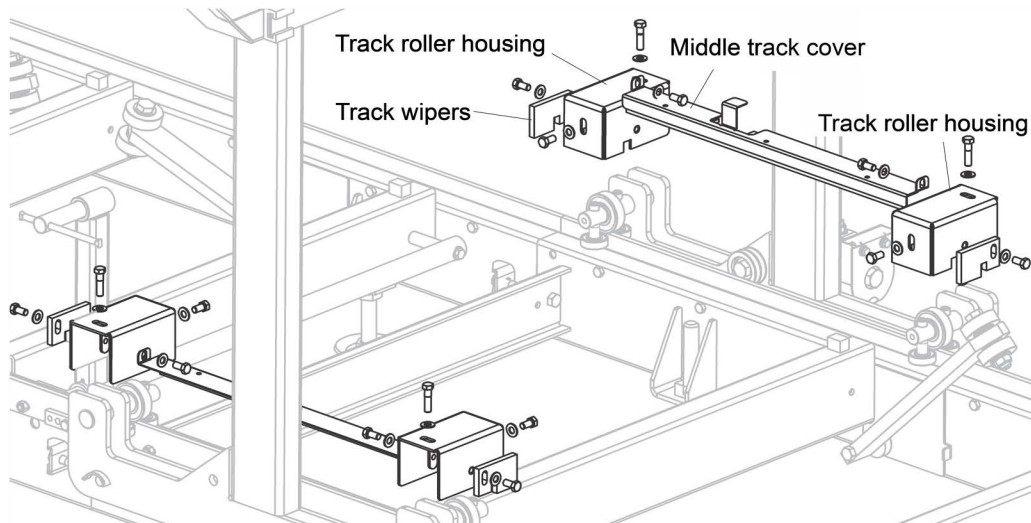

FIG. 6-1
5. Check the track scrapers as needed. Make sure the scrapers fit firmly against the rail. If a track scraper needs to be adjusted, loosen the screw, push the scraper downward until it fits firmly against the rail, and retighten the screw. See FIG. 6-1.